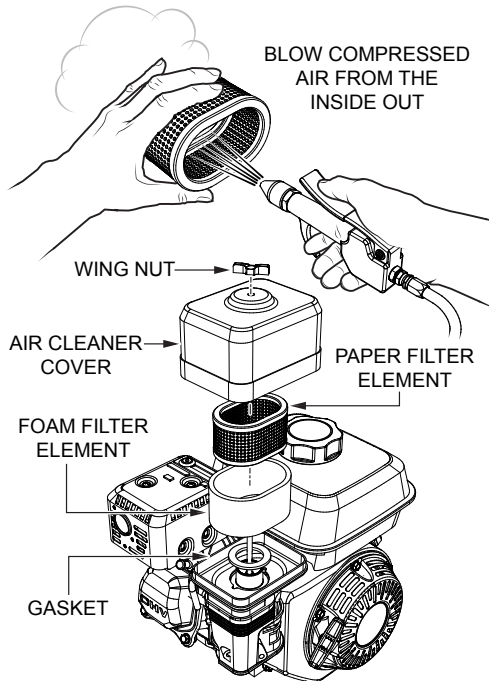

Figure 40. Engine Air Cleaner
1. Remove the air cleaner cover and foam filter element as shown in Figure 40.
2. To remove dirt, tap the paper filter element (Figure 40) several times on a hard surface, or blow compressed air not exceeding 30 psi (207 kPa, 2.1 kgf/cm²) through the filter element from the air cleaner case side. **NEVER** brush off dirt. Brushing will force dirt into the fibers. Replace the paper filter element if it is excessively dirty.